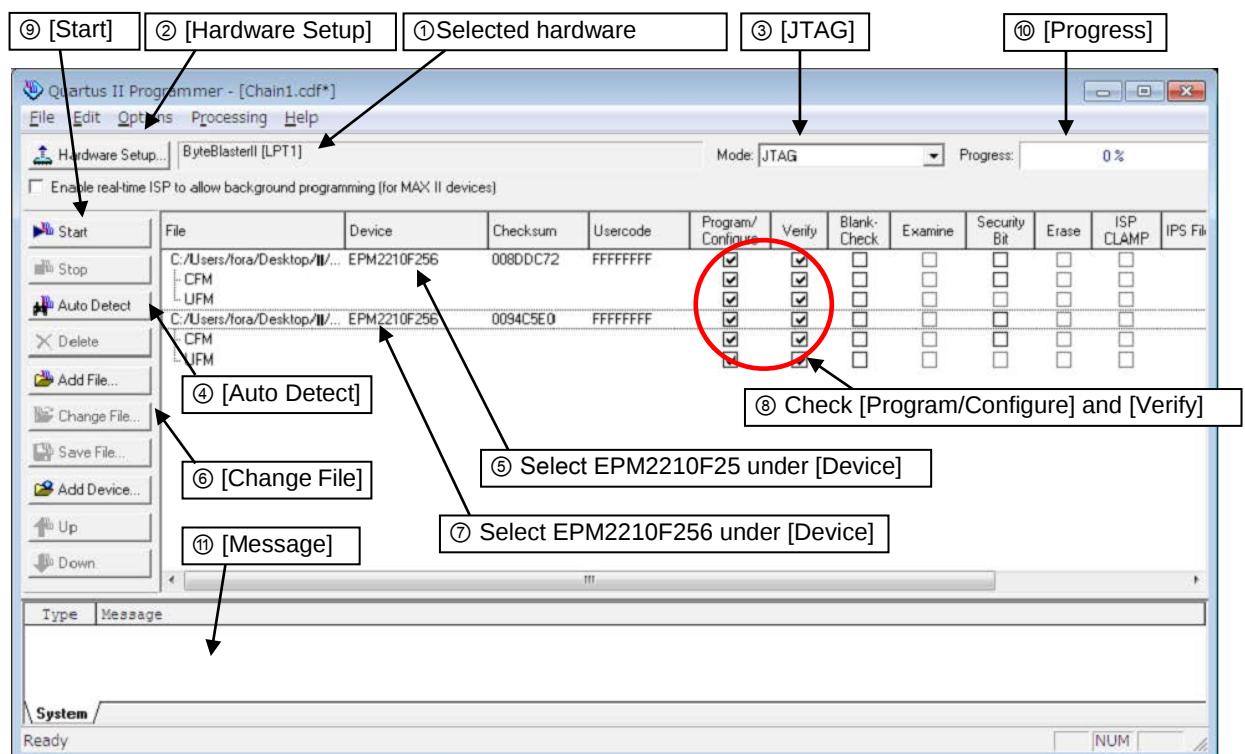

Fig. 18 CPLD Update Screen (FA-10RU)
5. Verify that **ByteBlasterII** (or **USB Blaster**) is selected (Fig. 18 ①).
If **ByteBlaster II** that is connected to PC is not selected, or "**No Hardware**" is displayed, click **[Hardware Setup]** (Fig. 18 ②) and select the connected **ByteBlasterII** (or **USB Blaster**).
6. Select **[JTAG]** under **[Mode]** (Fig. 18 ③).
8. Click **[Auto Detect]** (Fig. 18 ④).
9. If connected devices are displayed on the screen, select "**EPM2210F256**" displayed under **[Device]** (Fig. 18 ⑤), then click **[Change File]** and select the latest pof file (PM9290-X.pof) (Fig. 18 ⑥).
10. Select "**EPM2210F256**" displayed under **[Device]** (Fig. 18 ⑦), then click **[Change File]** and select the latest pof file (PM9291-X.pof).
11. Check **[Program/Configure]** and **[Verify]** (Fig. 18 ⑧).
12. Click **[Start]** to start updating (Fig. 18 ⑨).
13. If **[Progress]** indicates 100% (Fig. 18 ⑩) and no error sign (in red) appears on the status bar at the bottom of the window (Fig. 18 ⑪), the update is complete.